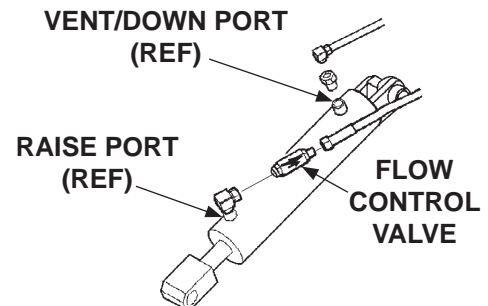

FIG. 51-3
7. Check if flow control valve (**FIG. 51-3**) is pointing to the direction of controlled fluid flow (toward pump). If arrow appears to be pointed in the wrong direction, call **MAXON Technical Service**.